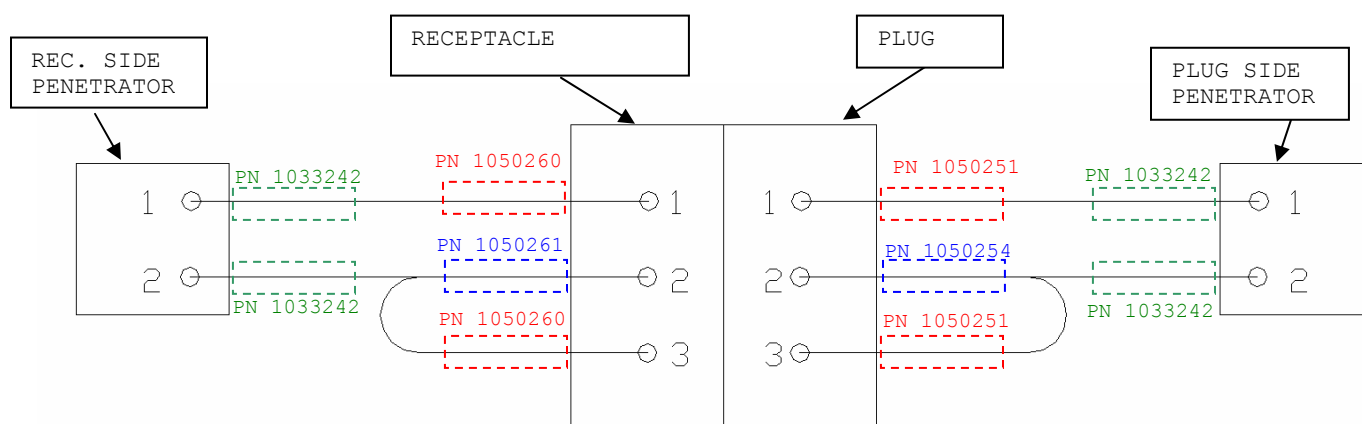

FIGURE 2: CONNECTORS SOLDERED TO PENETRATORS WITH BOOT SEAL PART NUMBERS
- 6.7 SOLDER THE WIRE LEADS TO THE PENETRATOR PINS PER THE GENERAL REQUIREMENTS OF **D/N 10637** (SOP-021-39), REFERRING TO FIGURE 2 FOR CIRCUIT CONFIGURATION. RECORD THE TRACEABILITY OF THE OBTAINED PENETRATORS IN THE PROVIDED SPACE BELOW.